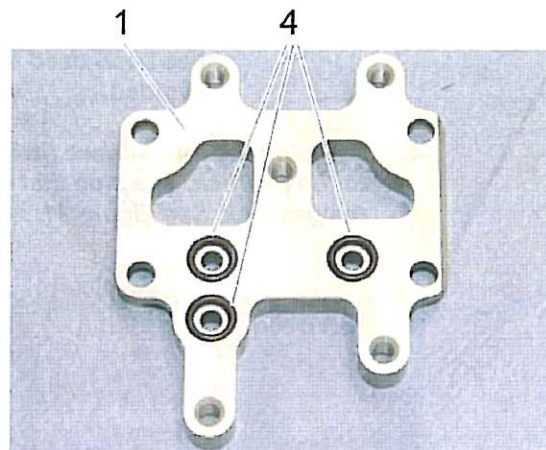

Figure 10
2. Fit one O-ring (item 4) into each of the three designated places at the adapter plate (item 1). See Figure 10.